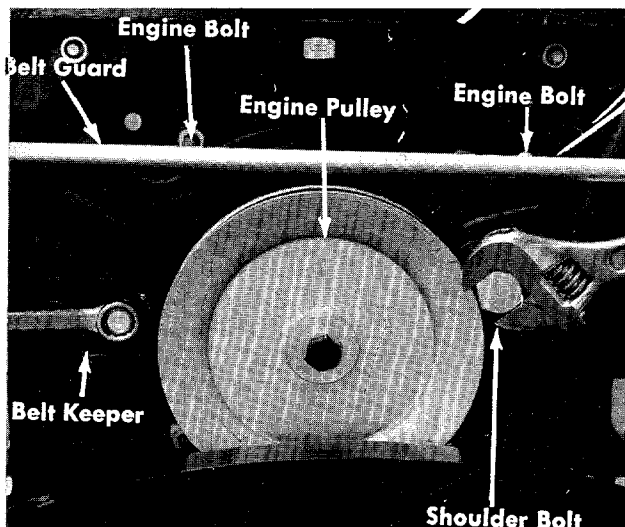

FIGURE 20. ENGINE PULLEY
- Step 2. Remove the belt keeper and shoulder bolt next to the engine pulley. See figure 20.
Step 9. **Removing the transmission belt.** See figures 20 and 21.
- a. Remove the entire belt guard from the engine pulley by removing the two front engine bolts. See figures 20 and 21.